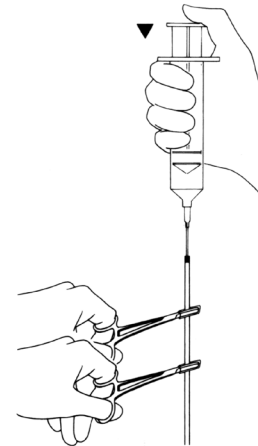

Figure 4-4e. Clamp Cuff
11. With the air and fluid removed and cuff completely empty, use two tubing-shod mosquito hemostats to double-clamp cuff tubing (one notch only) 3 cm below needle and again 3 cm below first hemostat, (**Figure 4-4e**)